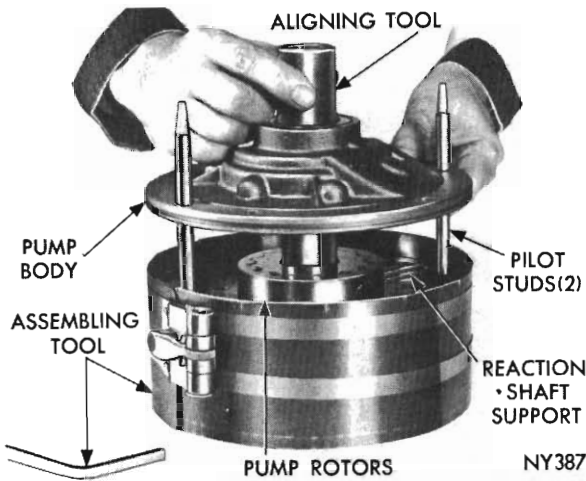

Fig. 65 - Assembling pump and reaction shaft support (A-904)
(1) Place reaction shaft support in assembling Tool E21C35H, with hub of support and tool resting on a smooth flat surface bench (Fig. 65). Screw two pilot studs, Tool E21C35B into threaded holes of reaction shaft support flange.
(2) Assemble and place rotors in center of the support (Fig. 65).
(3) Lower pump body over the pilot studs, insert Tool E21C35E through pump body and engage pump inner rotor. Rotate the rotors with tool to enter rotors in pump body, then with pump body firm against reaction shaft support, tighten clamping tool securely.
(4) Invert pump and reaction shaft support assembly with clamping tool intact. Install support to pump body bolts and tighten to 160 lbs. in. Remove clamping tool, pilot studs and rotor alignment tool.
(5) Place a new oil seal in opening of pump housing (lip of seal facing inward). Using Tool E21C35F, drive seal into housing until tool bottoms.